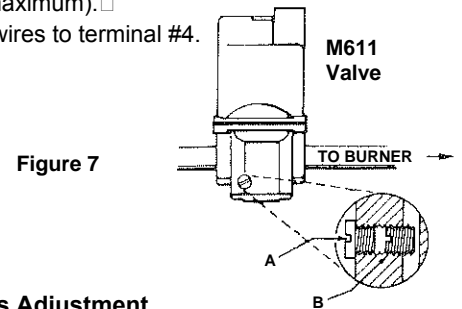

Figure 7
2. Remove cap (A), Figure 7, and turn adjusting screw (B) to desired low fire adjustment. (Use 1/8" Allen Wrench.) For convenience, two adjustment positions are provided on opposite sides of the valve. Usually, The less accessible of these is in the closed position, so the desired setting can be made from the front of the manifold.
3. Replace cap (A), and reconnect wire to terminal # 8.